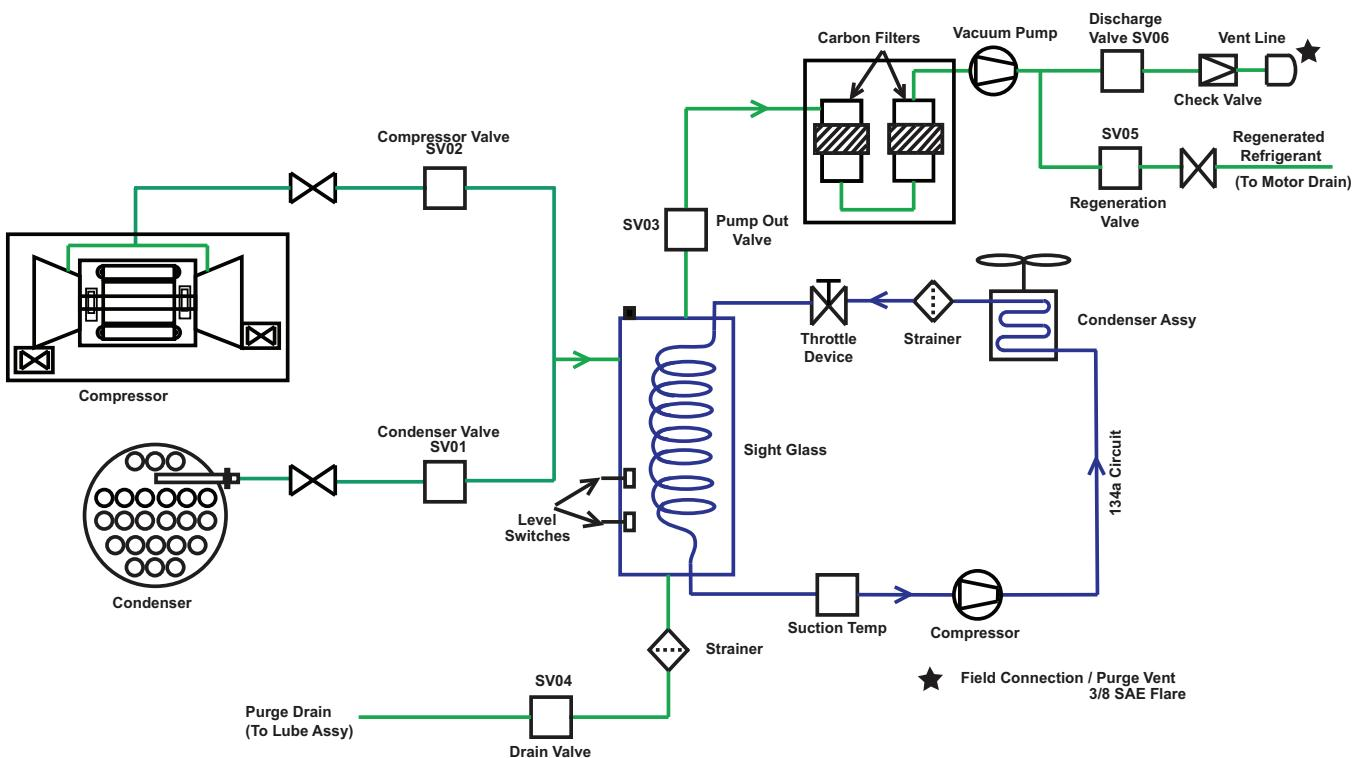

Fig. 11 — Purge Assembly
In the purge tank the purge gas is cooled by a separate integral R-134a cooling system. The cooling system consists of a compressor, an air cooled condenser coil, an expansion valve, and a cooling coil in purge tank. Cooling the purge gas results in condensation of R-1233zd(E) vapor as it touches the coil, resulting in a vacuum with the result that more refrigerant is pushed to the coil. As the purge tank fills up with refrigerant it will be drained through the purge drain to the refrigerant pump assembly. See Fig. 11.